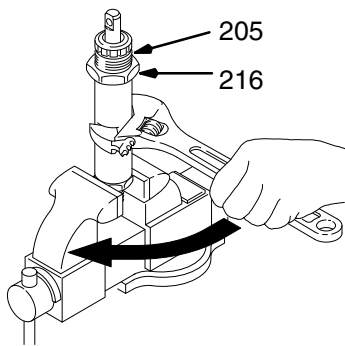

Fig. 16
1. Loosen the packing nut (216) and remove the plug (205). Unscrew the cylinder from the intake valve. See Fig. 16.